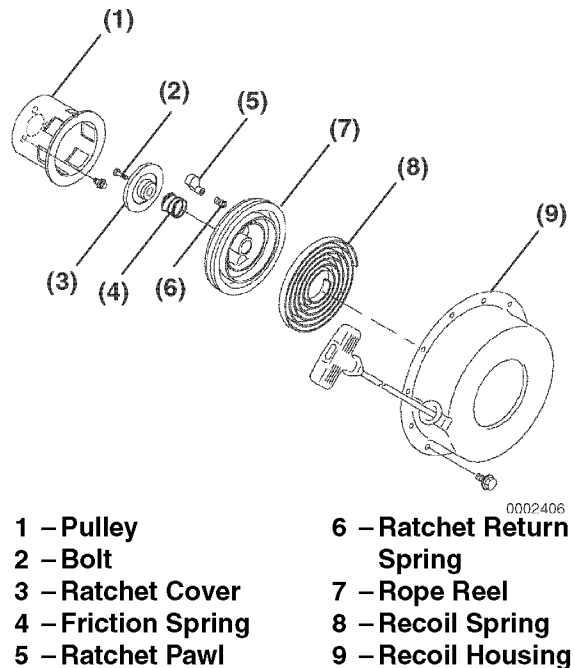

Figure 8-38
4. **Models L48N and L70N:** Remove the bolt (Figure 8-38, (2)).